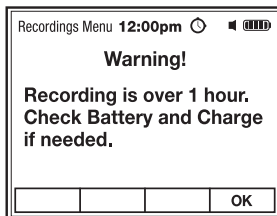

Fig. 9
- Press the **F4 OK** soft key to start recording if battery is fully charged (Fig. 9).